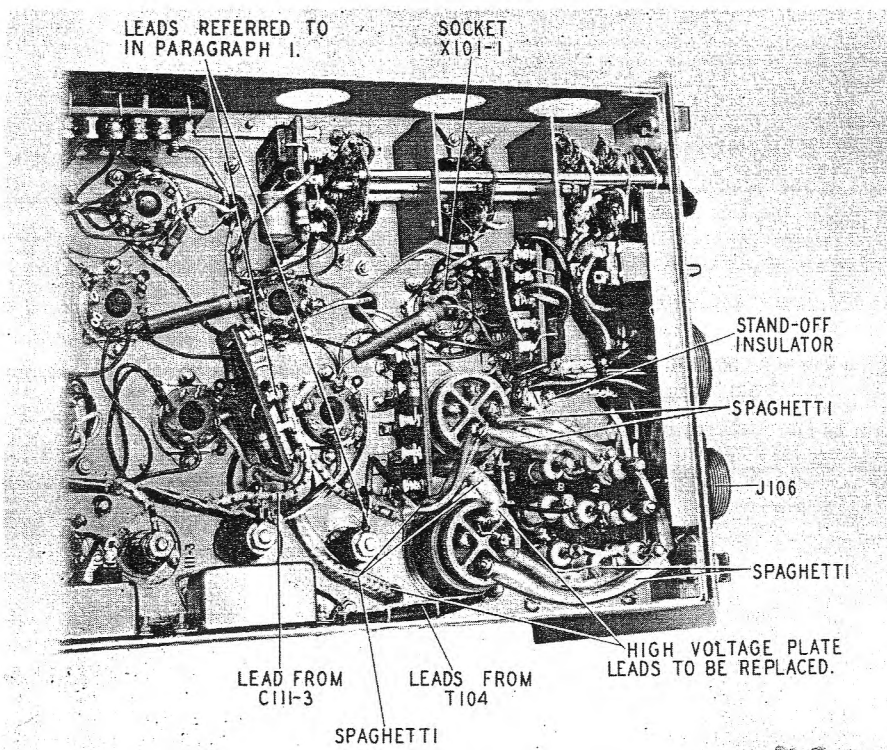

Figure 6-2. Transformer T-105—Transformer Lead Dress for Reducing Corona Effects
ial wire for the high-voltage rectifier leads. All of the old type transformers used in the field have been, or will be, replaced with one of the new type transformers. A 34-inch length of Vinylite tubing (spaghetti), (Philco Part No. 25-5603000), to insulate the transformer leads and a 15½-inch length of high-voltage wire (Philco Part No. 25-6900000), for use as plate leads for rectifier tubes V-110-1 and V-110-2 are included with each replacement transformer. (See fig. 6-2.)
the field is made to conform with that shown in figure 6-2, corona effects will be eliminated.
Figure 6-2 shows the location of all wiring leads from the transformer (Part Nos. 352-7245-2 and 352-7245-5), tube socket X-102-2, and the high-voltage terminal panel. If the wiring on units in
(1) Dress the two high-voltage leads from capacitor C-111-1 and lead from top center terminal of high-voltage panel around stand-off insulator. This places the leads further away from the high-voltage terminals of the transformer.
(2) Remove ground lead from terminal 5 of transformer, and connect new ground lead from this terminal to ground lug on socket X-101-1.
(3) Dress the four wires from transformer T-104 around stand-off insulator.
(4) Dress lead, from capacitor C-111-3 to high-voltage wiring panel, from back to front of panel, as shown in figure 6-2.
(5) Dress all leads from input receptacle J-106 so that they lie between terminal 2 of transformer and front panel of receiver chassis.
(6) Remove leads from stand-off insulator connected to terminal 1 of transformer (Philco Part No. 352-7196-2), and dress lead between terminals 2 and 3 and chassis. If Philco Part No. 352-8245-6 transformer is used, wire